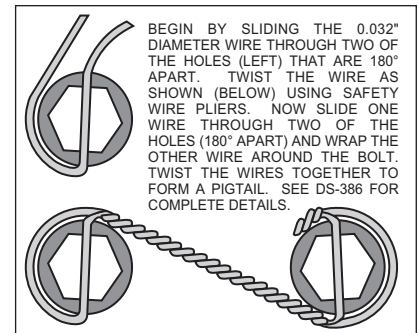

Figure 2. Safety Wire Diagram
- Apply red *Loctite*® 271 to bolt threads (2 and 3) before assembly of the caliper mounting bracket (1). Mount bracket (1) to dust face plate of spindle by screwing bolts (2) into steering arm, finger tighten only. Install bolts (3) through caliper mounting bracket (1) and steering arm, secure with lock washer (4) and nut (5), finger tighten only. Torque bolts (2 and 3) to 30-35 ft-lb. **NOTE:** Be sure the heads of the bracket (1) insert nuts are facing outward toward the wheel.
- Install wheel studs (6) into the hub (7). Torque to 77 ft-lb. **NOTE:** There are two five lug patterns in the hub (5 x 4.50 and 5 x 4.75). Make sure of the correct hole pattern for the correct wheel application before installing studs into hub.
- Pack the large inner bearing cone (8) with high temperature disc brake bearing grease (available from your local auto parts store) and install into the backside of the hub (7).
- Install the grease seal (9) by pressing into the backside of the hub (7).
- Attach rotor adapter plate (10) to rotor (11) using bolts (12). Torque bolts (12) to 180 **in-lb**. Safety wire bolts (12) using standard 0.032 inch diameter stainless steel safety wire as shown in Figure 2. Please refer to Wilwood's data sheet DS-386 (available at www.wilwood.org/ds386.pdf) for complete safety wire installation instructions. **NOTE:** Dished side of adapter plate (10) should face hub (7). The mounting tabs on the rotor (11) should face toward the hub as well and line up with the holes on the adapter plate (10).